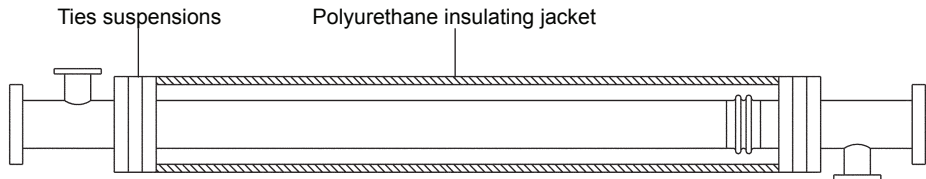

Fig. 10
- 4.11** To protect the expansion joint from external damage and optimise energy consumption, it is advisable to use a polyurethane insulating jacket as shown in Fig. 10.